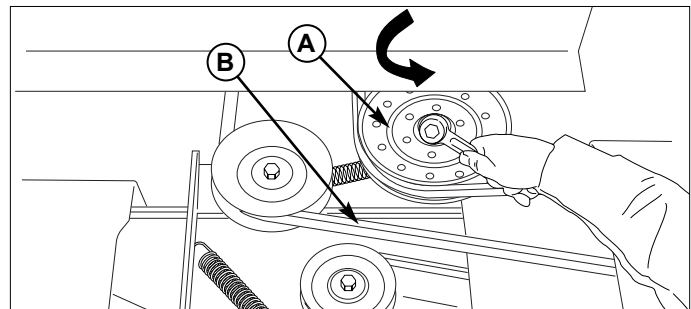

Figure 41. Mower PTO Belt
3. Release the spring tension on the PTO drive belt with a wrench on top of the idler pulley (A, Figure 41).
6. Install the drive belt on the PTO pulley, the arbor pulley and V-sided idler pulley. Release the spring tension on the idler pulley (A, Figure 41) and install the belt onto the pulley.